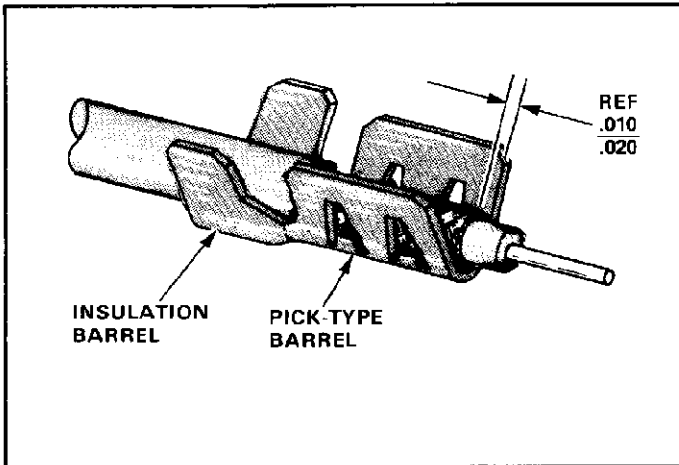

Fig. 4
2. Place stripped cable in terminal in a straight downward motion until braid is seated on lances in braid barrel and outer insulation is seated into insulation barrel. See Figure 4.